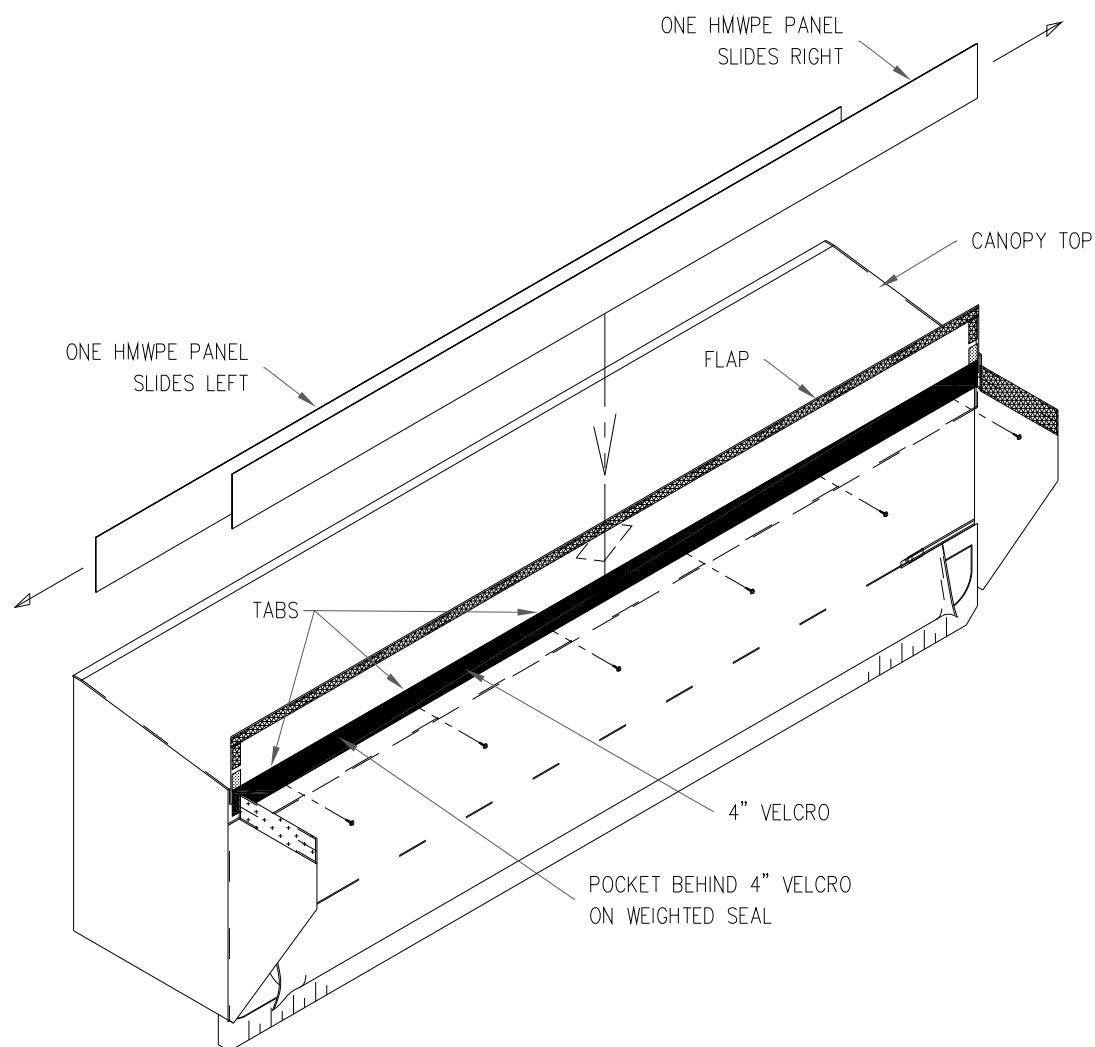

FIGURE 19
assembly. Make sure panels are seated in pocket all the way down. Individually, slide one panel to the left until it stops at the left pocket edge and slide the other panel to the right until it stops at the right pocket edge. This separation is what makes the full width gutter for the canopy assembly. The pocket will receive both the gutter and non-gutter versions of the panels. The gutter version projects approximately 2" above canopy front bar, while the non-gutter version is basically flush with the front bar top edge. (See Figure 19)
4. Next, attach the gutter assembly to the front bar in (6) locations using the self drill/tapping screws provided. Start 12" from center in both directions, approximately 3/4" down from velcro edge on pocket. The screws should land just above the middle of the front bar. Install a total of (3) screws in each direction. There are small fabric tabs located above the velcro edge on the gutter pocket, indicating the fastener locations. Do not install a screw at the center location. (See Figures 19 & 21)